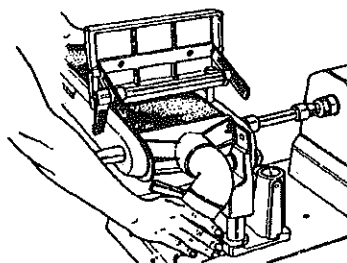

Fig.F-13
13. Line up the notches on the drive shaft hub with the ridges inside the coupler. Unlock the carriage, and with one hand on the carriage and another on the Belt Sander, slide the carriage so that the coupler on the Belt Sander fits over the drive shaft hub (31). See Fig.F-13.